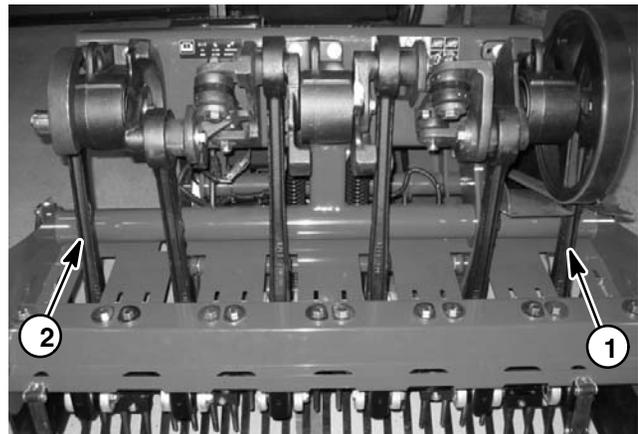

Figure 6
NOTE: The six (6) stomper arms used on the ProCore 648 are identical. Coring crankshaft positions are identified as #1 through #6. The #1 position is on the right (pulley) side of the coring crankshaft (Fig. 6).